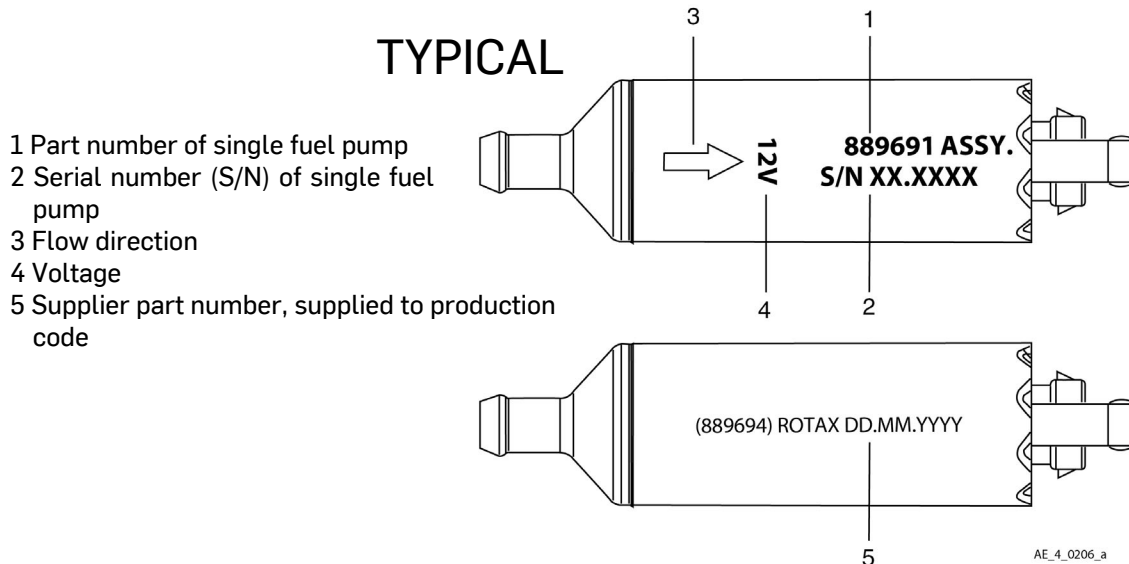
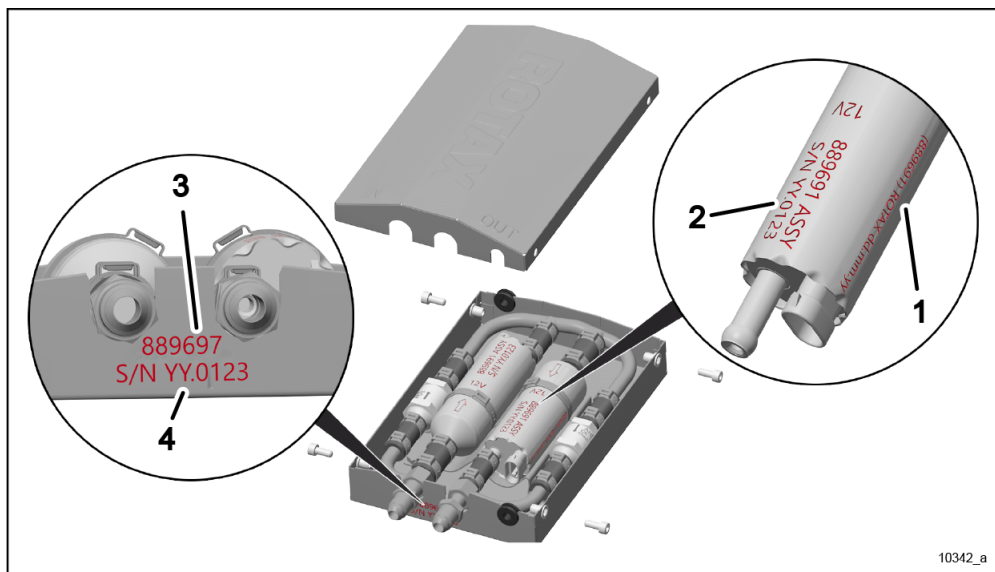

Fig. 1
Fig. 2
See Fig. 1 and Fig. 2.
- 2 Serial number (S/N) of single fuel pump, see Fig. 1
NOTE: The fuel pump assembly (including stainless steel box, fuel pumps, check valves and hoses/tubing) serial number may, or may not, be different than the serial number of the individual fuel pumps (See Fig. 1 and Fig. 2).